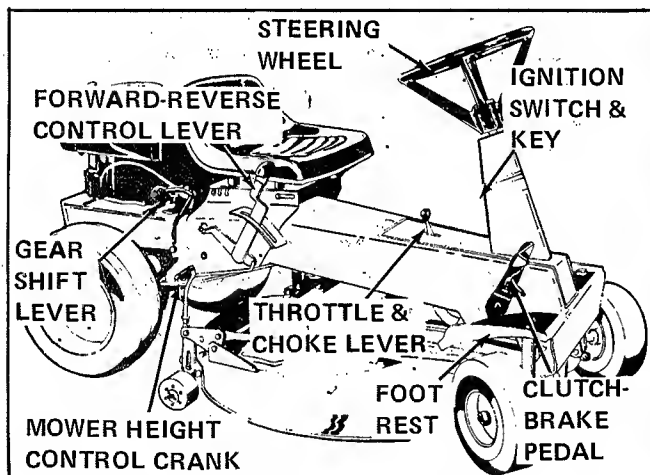
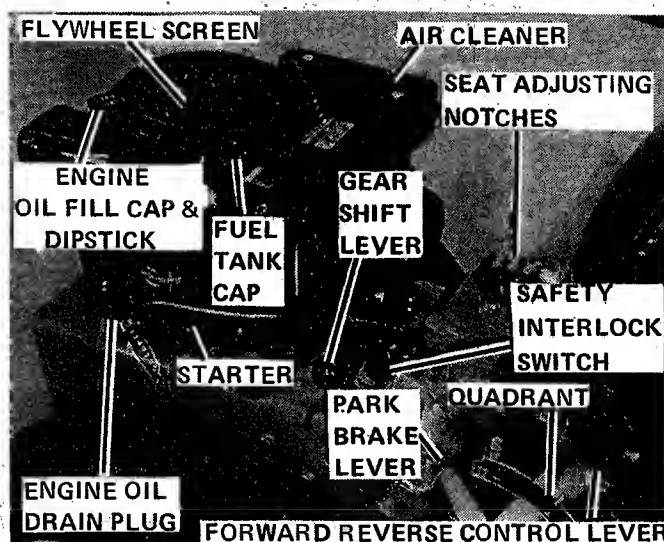

Figure 6.
Figure 7.
See Figure 6. Pushing the clutch-brake pedal forward first, loosens and disengages the transmission drive belts. Further forward motion of the pedal applies the brakes.
See Figure 6. The throttle and choke lever controls the engine speed from idle to full speed. Moving the lever farther forward past the "fast" position applies the choke for starting the engine. As soon as engine starts the lever should be pulled back to mid-range and engine allowed to warm up a few minutes before applying a load. When operating at full throttle be careful that the lever is not moved so far forward that the choke is partially closed.
See Figure 6. Pulling up on gear shift lever places the transmission in low range. Pushing down engages the high range gearing. Shift lever must be placed in neutral midway between high and low range to engage a safety interlock switch to permit starting the engine (Figure 7). To shift gears with engine running, either the clutch-brake pedal must be fully depressed, or the forward reverse control lever must be placed in neutral.
See Figure 6. The forward-reverse control lever operates the transmission shuttle clutch and permits starting and stopping the tractor in either forward or reverse direction without shifting gears or using the foot clutch. The shuttle clutch may be used for a short time to "inch" the tractor forward or backward, and to start and stop motion smoothly. IT MUST NOT be used as a speed change device. All continuous operation MUST be done in either fully forward or fully rearward position.
See Figure 6. The ignition switch must be turned to the "Start" position to actuate the starter. As soon as engine starts; let go of key and it will automatically return to "On". Turn key to "Off" to stop the engine.
See Figure 7. The parking brake lever, located under the right side of the seat, is pushed down to engage brake. Brake should be engaged when leaving the tractor unattended.
See Figure 6. The cutting height of the mower can be adjusted from 1-1/2 to 3-1/2 inches by rotating the height control crank. Turn clockwise to raise and counter-clockwise to lower.
b. Check engine oil level, (Figure 7), and add oil as required to maintain level up to full mark on dipstick.
c. Fill the fuel tank (Figure 7) with a good grade of regular gasoline. DO NOT use premium gasoline and DO NOT mix oil with gasoline.
### STARTING (Figures 6, 7 and 8)
5. If the starter will not operate, turn ignition key to off and check that both the gear shift lever and mower PTO drive clutch are in neutral position and are actually actuating the safety interlock switches (Figures 7 and 8).